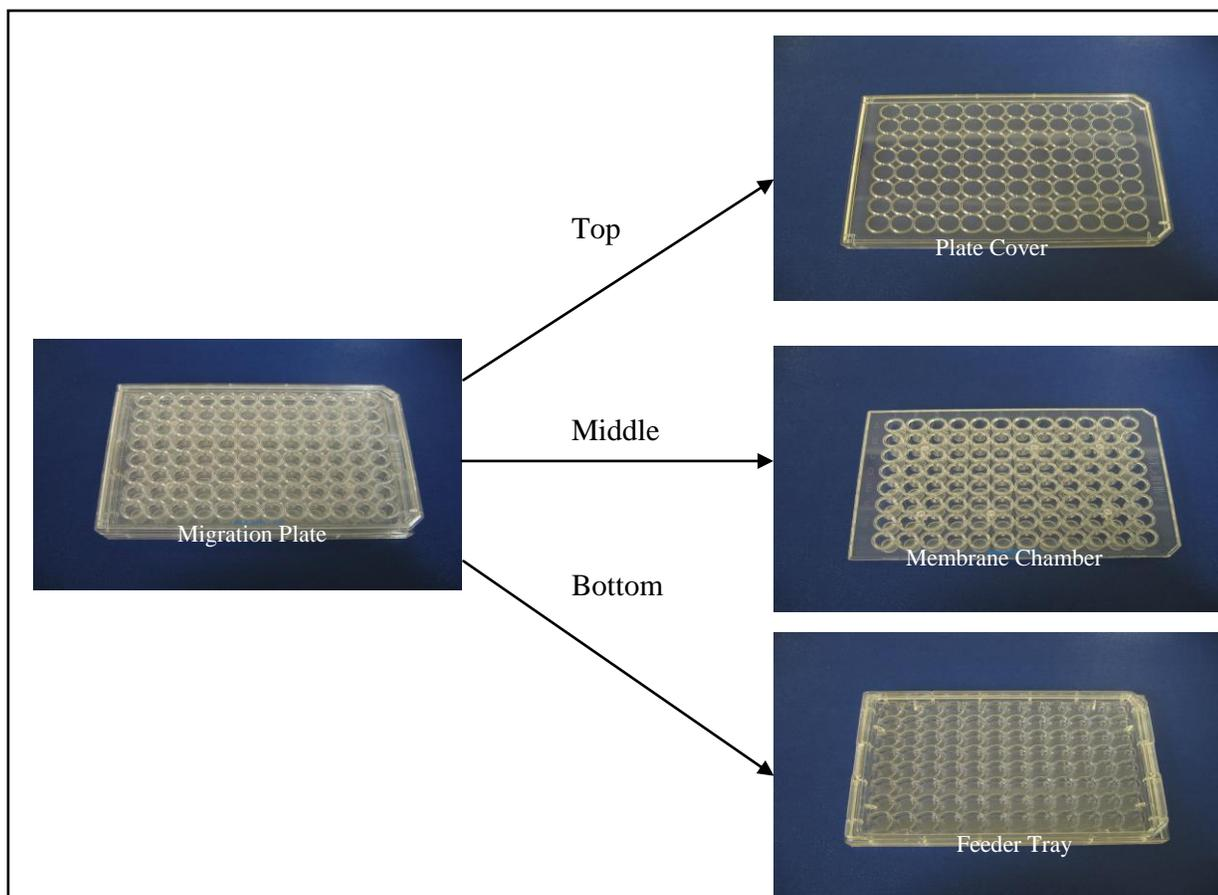

Figure 1: Components of the 96-well Cell Migration Plate.
1. 96-well Cell Migration Plate (Part No. 10601): One sterile 96-well plate (see Figure 1 for components)